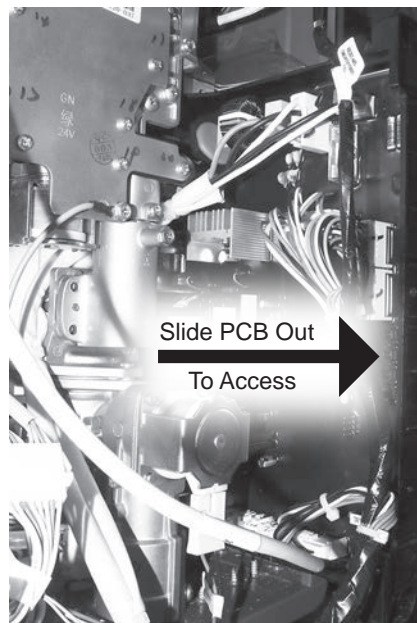

Figure 35 - Accessing PCB
- 11 Gently slide PCB out from water heater far enough to access the wiring harnesses shown in Figure 35.